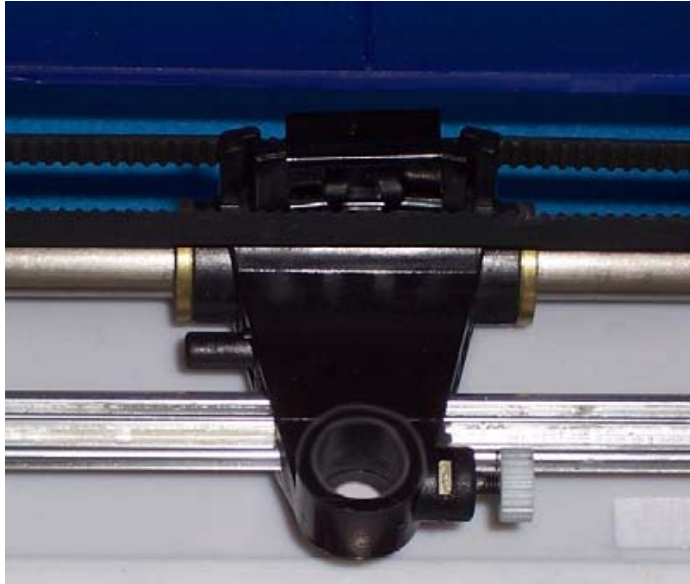

Figure 14
- 6** Loosen the white thumbscrew on the cutting carriage (figure 14). Insert the blade unit into the opening of the cutting carriage. Loosen to remove blade holder.